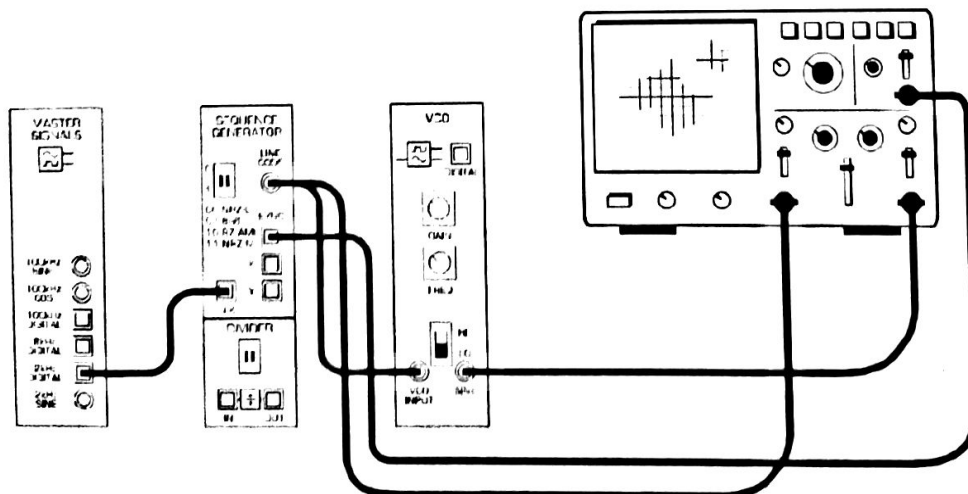
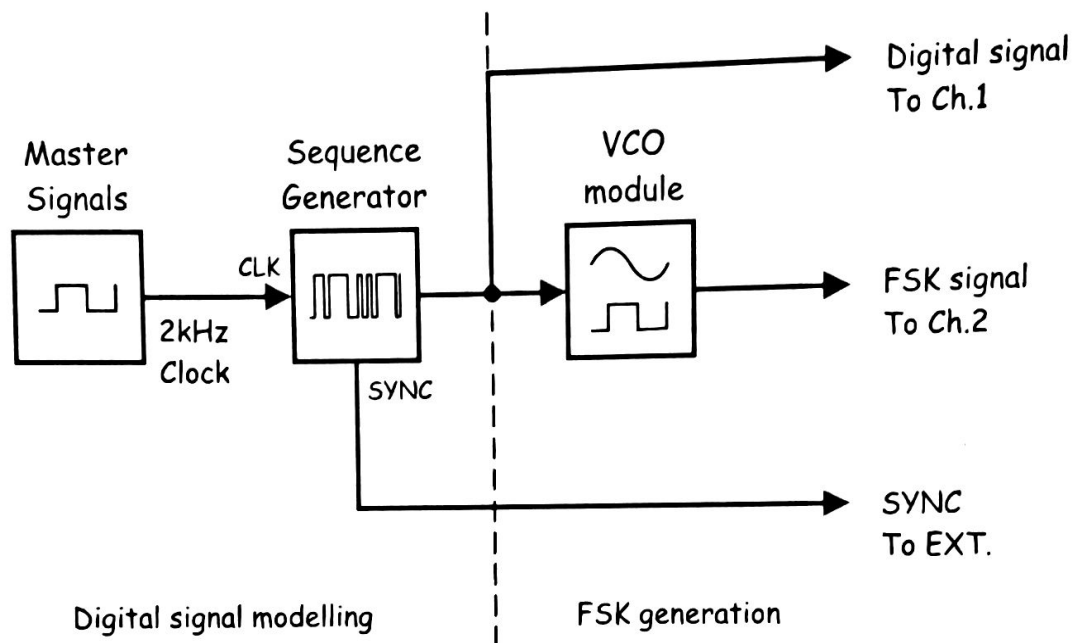

Figure 2
Figure 3
10. Connect the set-up shown in Figure 2 below.
The set-up in Figure 2 can be represented by the block diagram in Figure 3 below. The Sequence Generator module is used to model a digital signal and its SYNC output is used to trigger the scope to provide a stable display. The VCO module is used to generate the FSK signal.